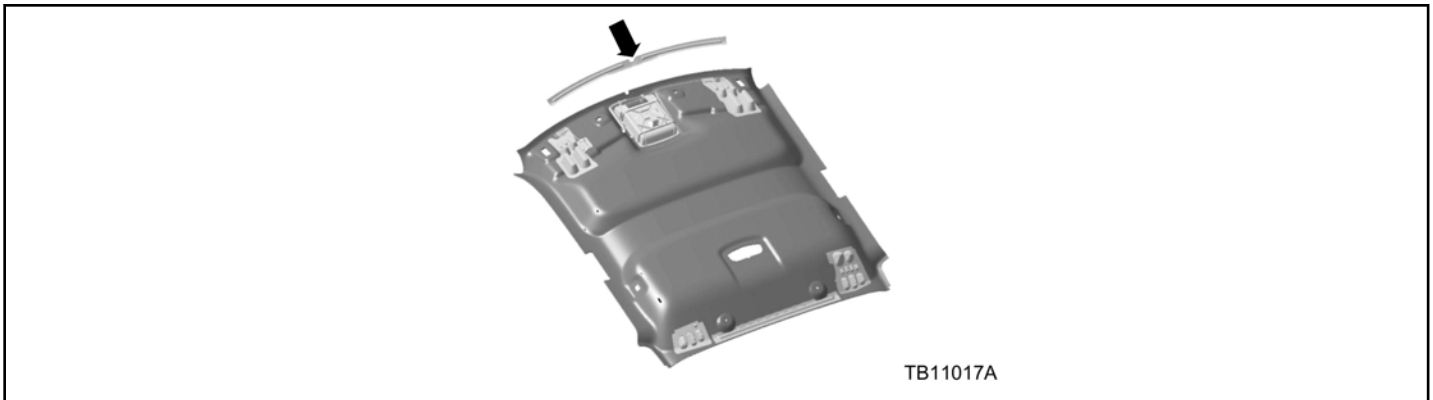

Figure 2 - Article 17-0012
6. Use the center notch of the front metal reinforcement to position it on the backside of the front edge of headliner. Use the dual notches when installing the rear metal reinforcement. (Figure 2)